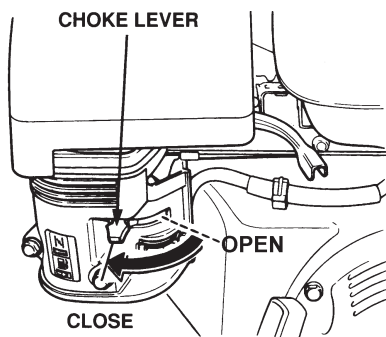

Figure 19. Choke Lever
- Place the **Choke Lever** (Figure 19) in the "**CLOSED**" position.